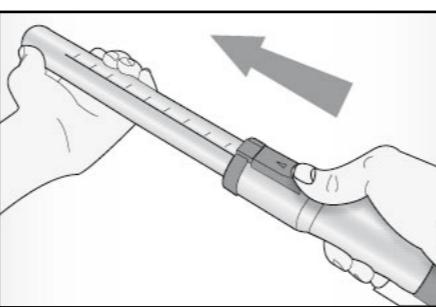

Fig. 4
- Push the slider device (13) forwards and pull the bottom section of the tube out to the required length (Fig. 4). Then simply release the slider and the device will return to its original position.